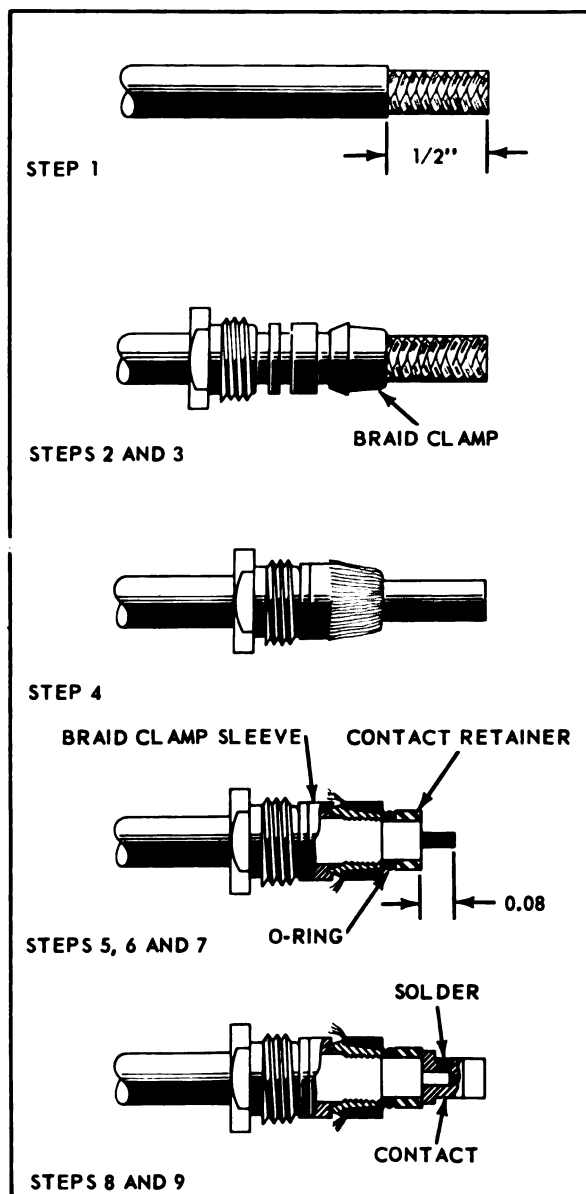

Figure 4-43. Attaching Nu-Line 1200 Series Connectors to Coaxial Cable
a. Assembly of Nu-Line 1200 Series coaxial connectors to coaxial cable: (See figure 4-43).